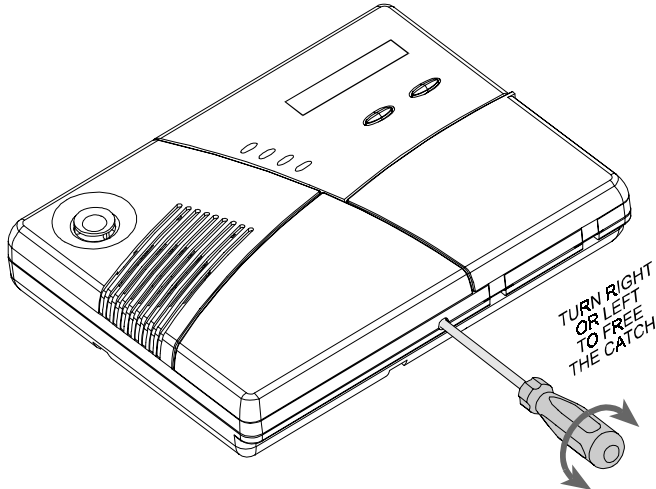

Figure 27. Releasing the Catch
A. Insert a wide bladed screwdriver into the hole at the bottom of the unit (see Figure 27).